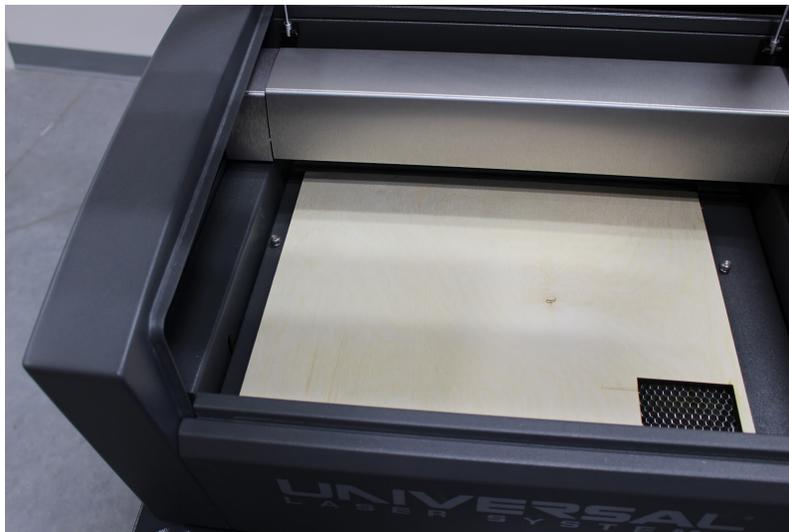

Figure 7 - Loading Material
2. Open the lid of the laser and place your material up against the upper left hand corner of the hex grid (Figure 7). Leave the lid open.
3. Back in the print dialog send your file to the printer by pressing "Print" (Figure 7).